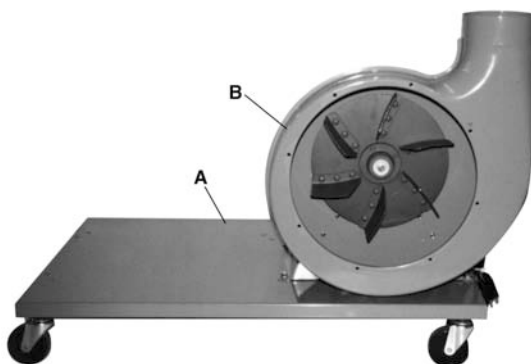

FIGURE 6
2. Place base with casters (A) Fig.6 on the ground and attach the motor and fan housing assembly (B) to the base using 4 hex. bolts and 4 flat washers.